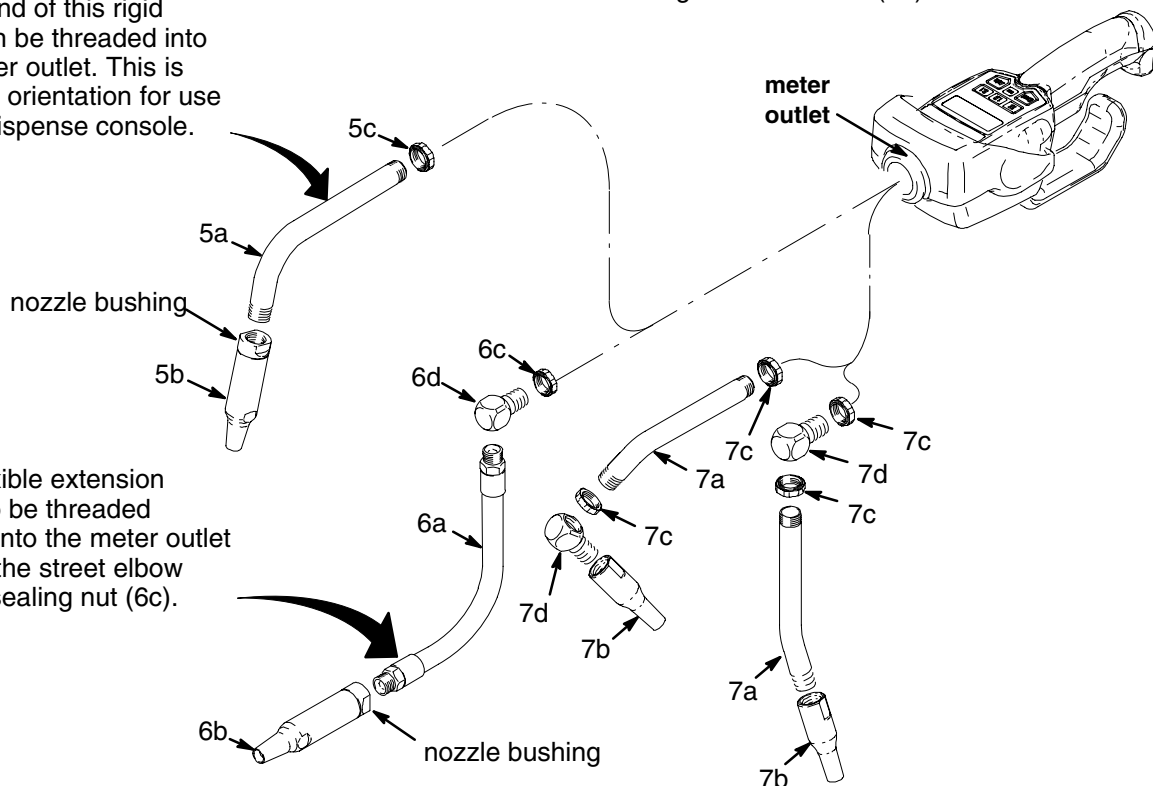

Fig. 4
See Fig. 4.
11. Thread the new nozzle (5b, 6b, or 7b) onto the extension, and, with an open-end adjustable wrench, tighten it firmly. See Fig. 4.